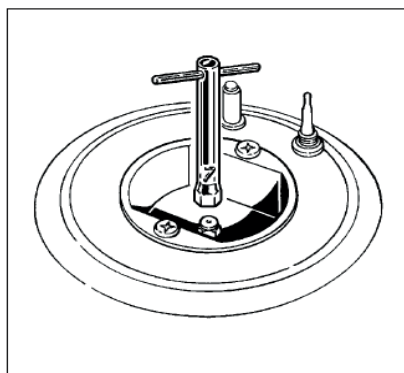

Fig. 2
- Unscrew the jets (Fig. 2) using the 7 mm. Key and replace them with the new ones (see table 1). Check the exact correspondence of the diameter indicated on the table with that printed on the jets. After having replaced the jets, set up all the parts again and stick the new data on the technical data plate.